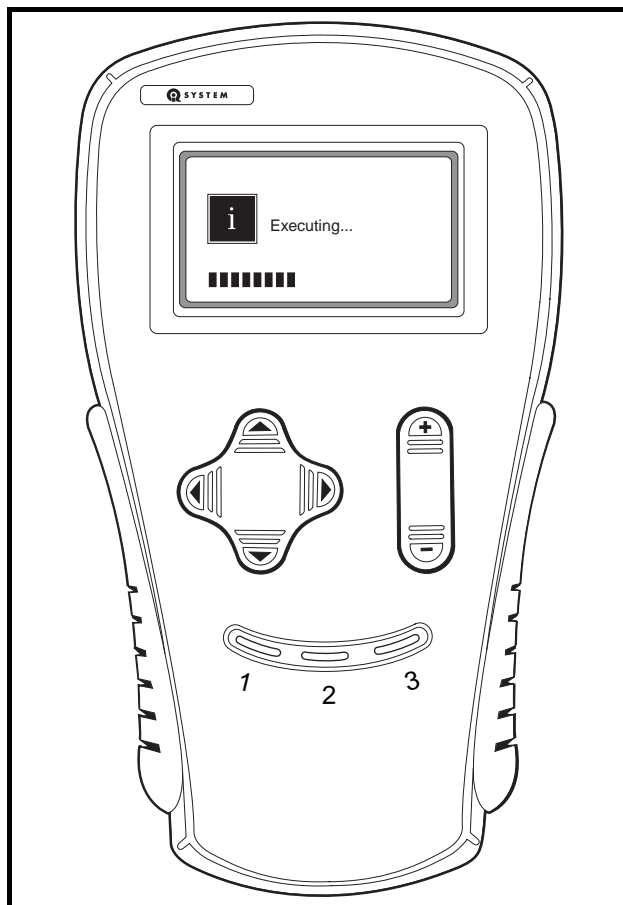
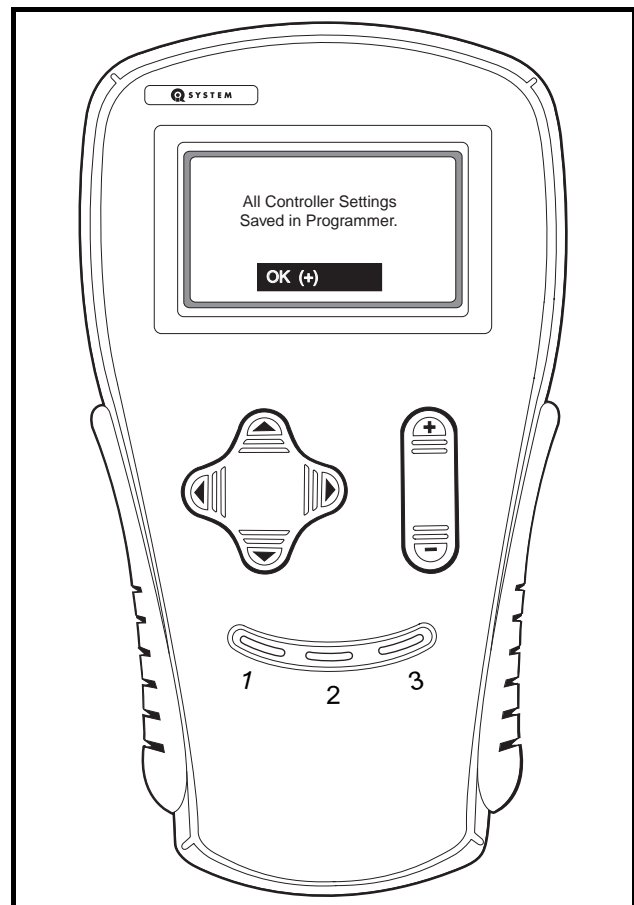

Figure 12-3 Handset Executing
Figure 12-4 Confirmation Message
- 3.4. Align the keyed portion of the plug with the IQDM jack and connect the plug to the jack (**Figure 12-3 or Figure 12-4**).
8. The handset will display an “executing...” message for the next few seconds while the controller settings are being stored in the handset’s memory (**Figure 12-3**).
9. When the handset is finished recording the speed controller settings, a confirmation message is displayed (**Figure 12-4**).
- 4.4. Align the keyed portion of the plug with the IQDM jack and connect the plug to the jack (**Figure 12-3 or Figure 12-4**).
9. The handset will display an “executing...” message for the next few seconds while the controller settings are being stored in the handset’s memory (**Figure 12-3**).
- The handset will display an “executing...” message for the next few seconds while the controller settings are being stored in the handset’s memory (**Figure 12-3**).